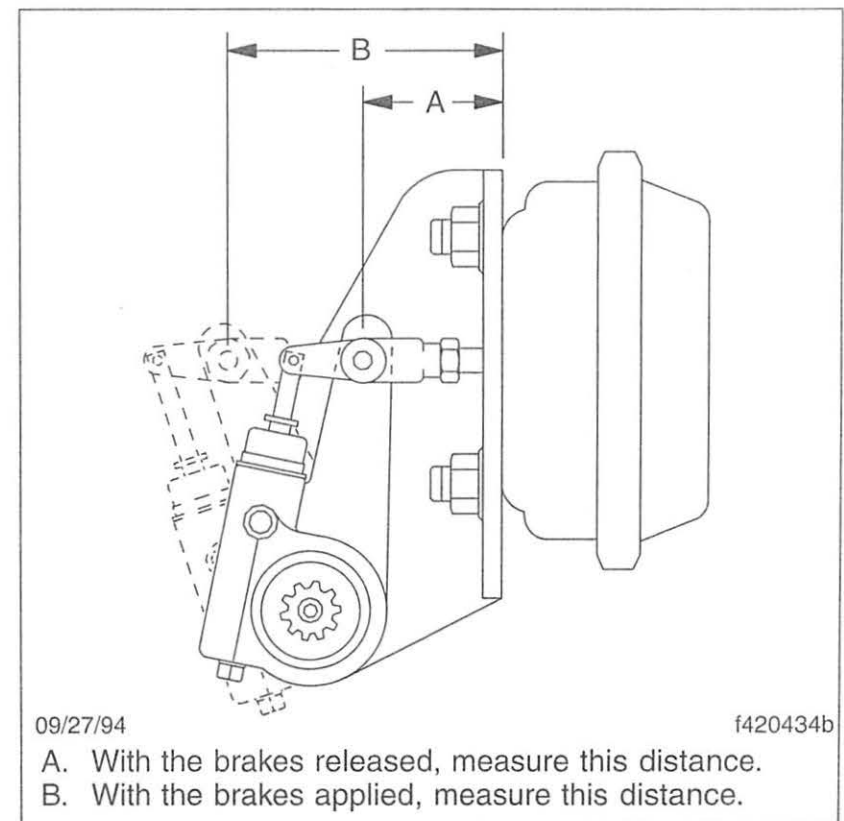

Fig. 11.15, Brake Stroke Check, Gunitite Automatic Slack Adjuster
center of the large clevis pin. See **Fig. 11.15**, Ref. A.
- Build air pressure to at least 85 psi (585 kPa). Apply the brakes, then measure the distance from the bottom of the brake chamber to the center of the large clevis pin. See **Fig. 11.15**, Ref. B. The difference between the measurements is the brake chamber stroke.